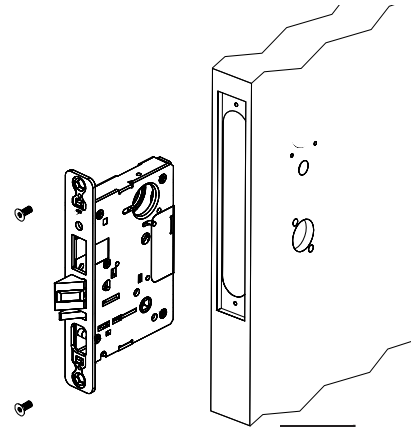

Figure 3
**MAKE SURE TEMPLATE IS ORIENTED CORRECTLY. (FIGURE 3)**
4. Square template to edge of door. (Figure 3)